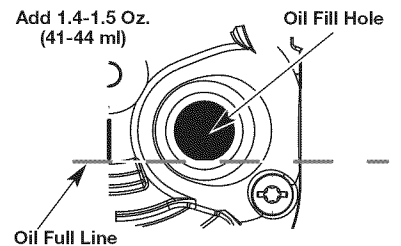

Fig. 19
5. Look into the oil fill hole; use a flashlight if needed. The oil should be just touching the innermost thread (Fig. 19).
6. If the oil level is not touching the innermost thread on the oil fill hole, add a small amount of oil to the oil fill hole and recheck (Fig. 19). Repeat this procedure until the oil level reaches the innermost thread on the oil fill hole.